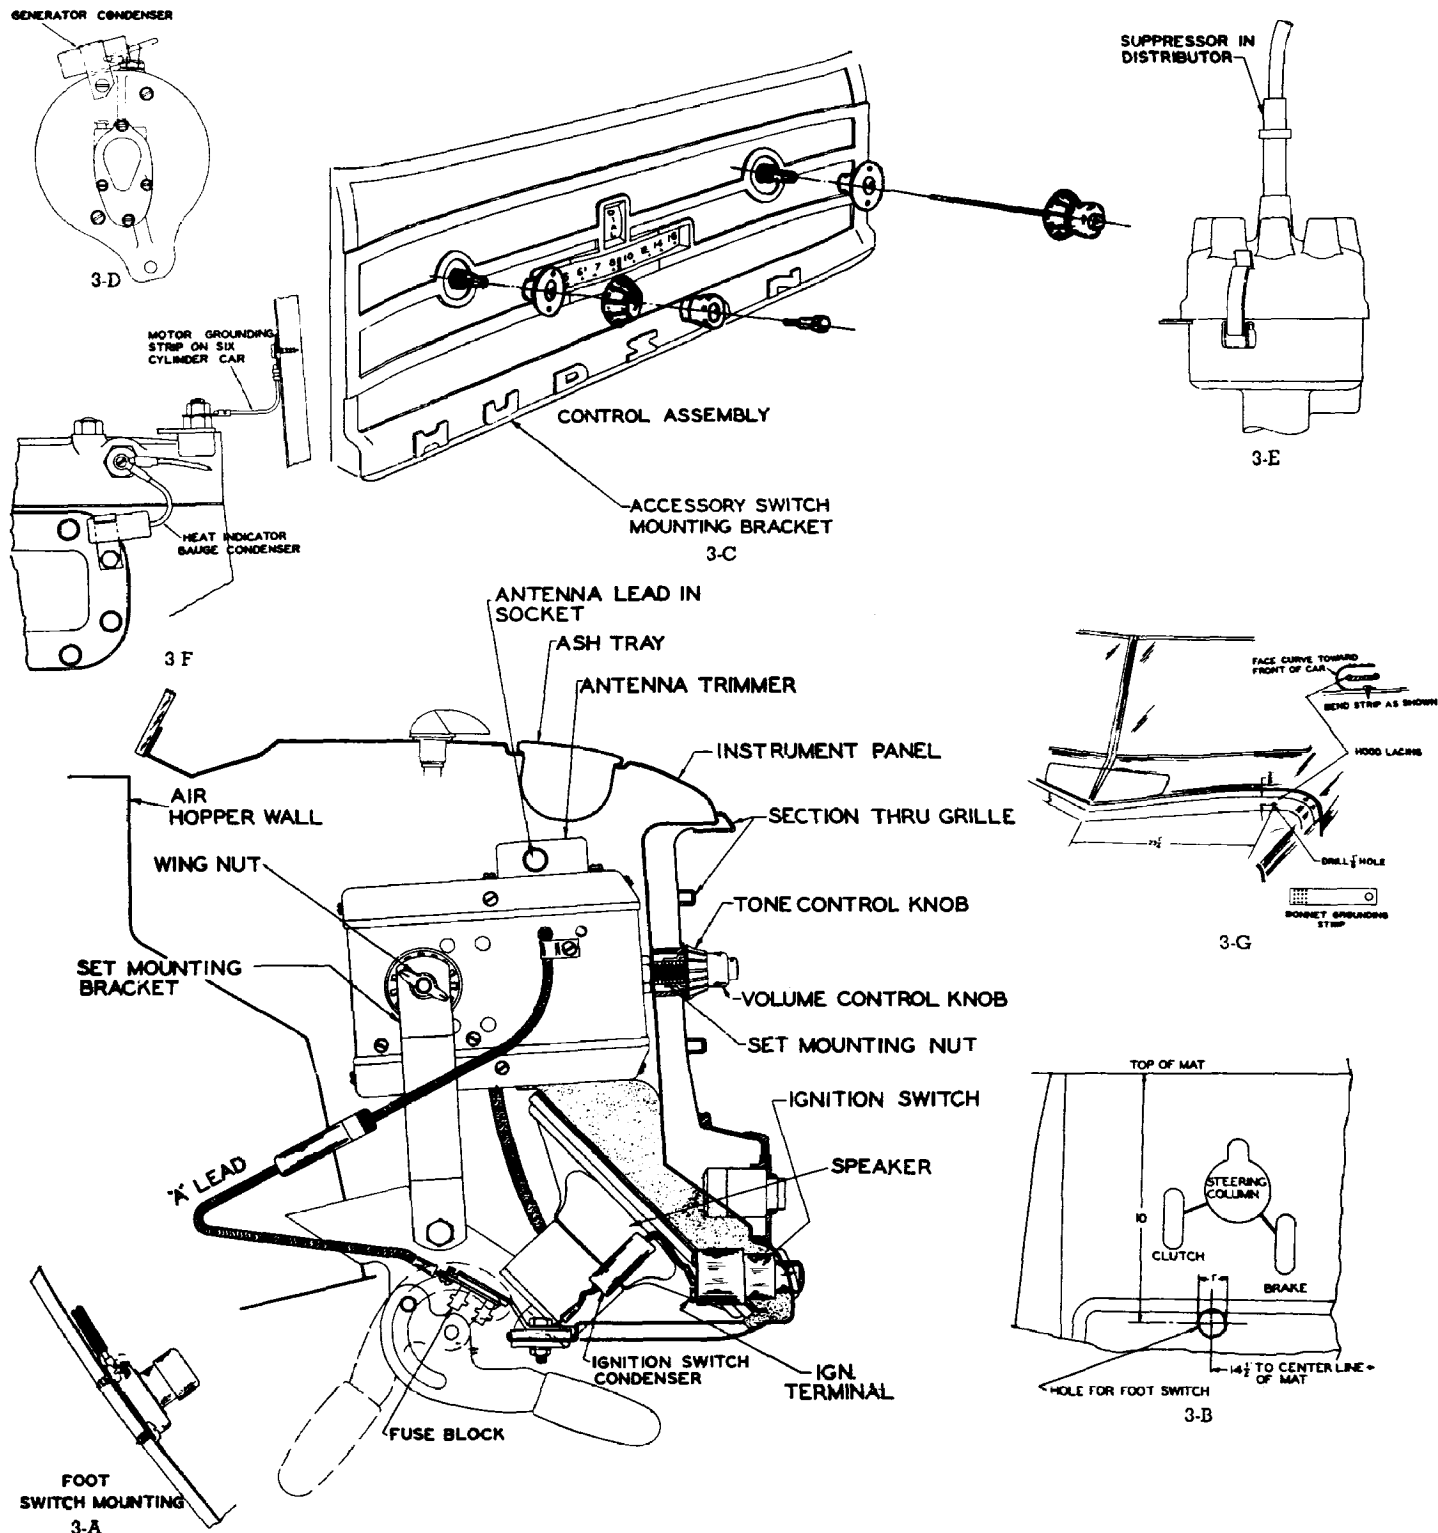

Fig. 3—Mounting Details and Connections.
3. Remove floor mat, place foot switch in position and secure with 3 no. 8 R.H. self tapping screws in holes provided as shown in Fig. 3-A.
8. Attach side mounting bracket by fastening one end to side of receiver case with wing nut. Remove top cowl ventilator hand bracket bolt and replace with $\frac{1}{4}$ "x $\frac{3}{4}$ " M.S. Secure radio bracket to the cowl ventilator handle bracket with flat washer, lock washer and nut. Fig. 3.
9. Remove cardboard protector from speaker unit and fasten speaker and bracket assembly in place with two $\frac{1}{4}$ "x $\frac{3}{4}$ " M.S., flat washers, lock washers and nuts provided, as shown in Fig. 3. Plug speaker cable plug into socket provided on speaker frame.
10. Fasten controls in place as shown in Fig. 3-C. CAUTION—Tuning knob must be placed $\frac{3}{16}$ " away from instrument panel in order to rotate freely in the automatic position.
13. Fasten "A" lead to fuse block as indicated in Fig. 3.
15. Place floor mat on flat surface. Mark and cut one inch hole as shown in Fig. 3-B for foot switch button. Replace mat on car floor.
16. Attach condenser, part No. 22-1262 to rear of generator with machine screw and lockwasher provided. Connect condenser lead to generator "A" terminal, Fig. 3-D.
17. Install suppressor in center hole of distributor cap being sure to make good contact. Place distributor lead in top of suppressor Fig. 3-E.
18. Mount ignition lock condenser part No. 22-1263 under rear left nut holding ventilator handle guide assembly. Connect the other lead to the "AM" terminal of the ignition lock Fig. 3.
19. Attach condenser part No. 22-1260 to the upper rear cap screw on the engine water manifold plate and attach the condenser lead to the heat indicator terminal, Fig. 3-F.
20. Install bonnet grounding spring under hood lacing $23\frac{1}{2}$ " to left of center line of car as shown, using no. 8 sheet metal screw Fig. 3-G.
21. Remove tape from special hole in dash and install flat ground strap from rear cylinder head stud to dash. Fasten it to dash with sheet metal screw and shake proof washer. The ground strap is mounted under the regular stud nut on the eight cylinder cars. The ground strap is placed on top of the regular stud nut on the six cylinder cars and held in place by special nut furnished in kit. Fig. 3-F.